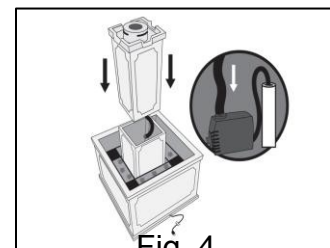

Fig. 4
4. Connect the water tube, which extends from the inside of the top tower, to the outlet of the pump and place upper tower onto lower tower. Position the towers on the basin and check to make sure tower is level. Fig. 4.